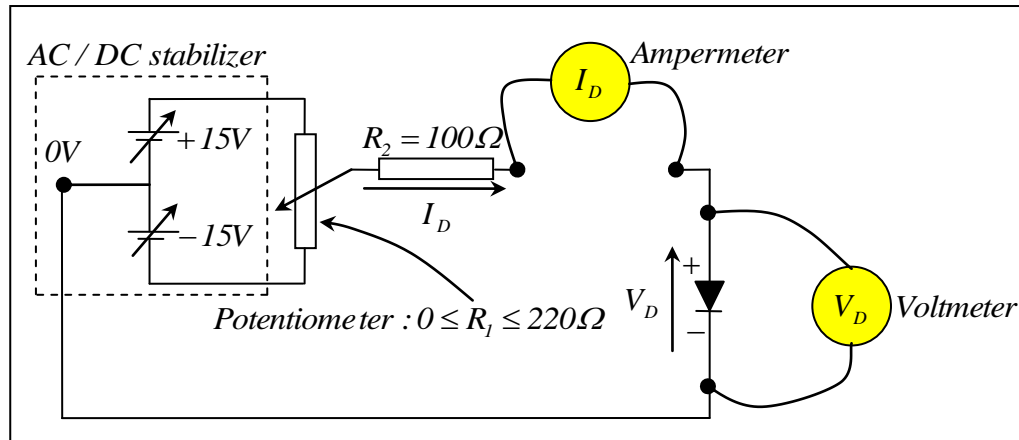

Figure 6. Setup for determining I_D - V_D characteristics.
- Set up the experiment as shown in the Figure 6. Plug in the Si-Diode, so that the tip of the triangle points from plus to minus (in the direction of the current, "forward direction"). Pay attention to the measuring range and polarity of the multimeters.